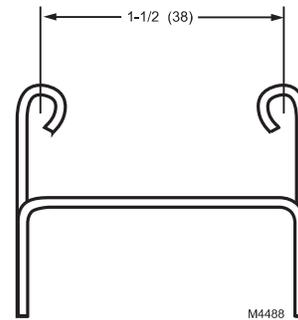

Fig. 2. C7089U Outdoor Sensor Mounting Clip dimensions in in. (mm).
- C7089U Outdoor Sensor Mounting Clip: see Fig. 2.